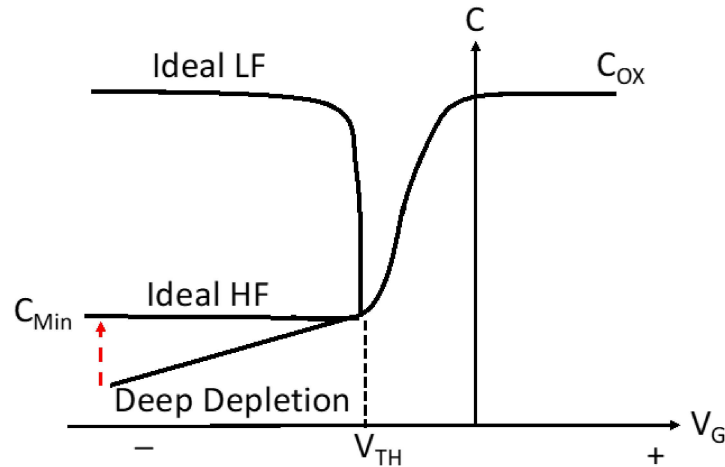

Figure 16: CV curve, low frequency and high frequency
- The capacitance returns to its original value  $C_{ox}$  as shown in the Fig.16